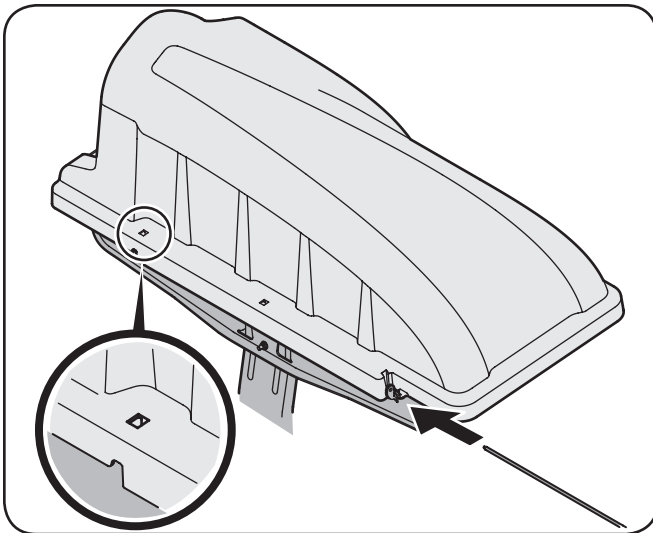
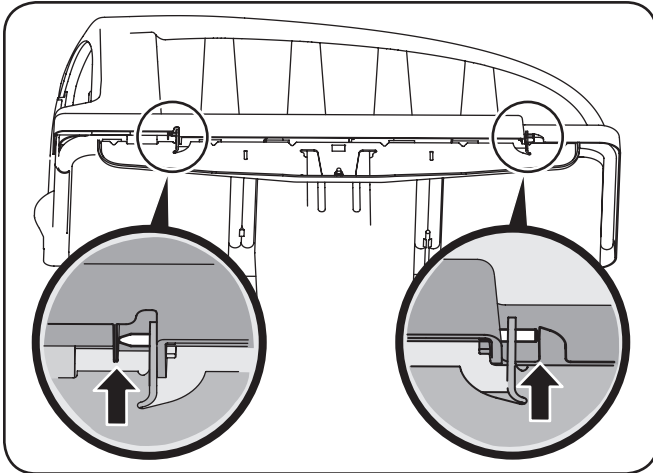

Figure 4-11
Figure 4-12
6. Slide the hinge pin into the hole located on the mounting tab, as in Figure 4-11. Use the cut-out window (See inset in Figure 4-11) to line up the hinge pin on the other side and push pin all the way in until it reaches the end-stop. At this point the pin clips into place and is secured by a tab in the bagger cover. See Figure 4-12.